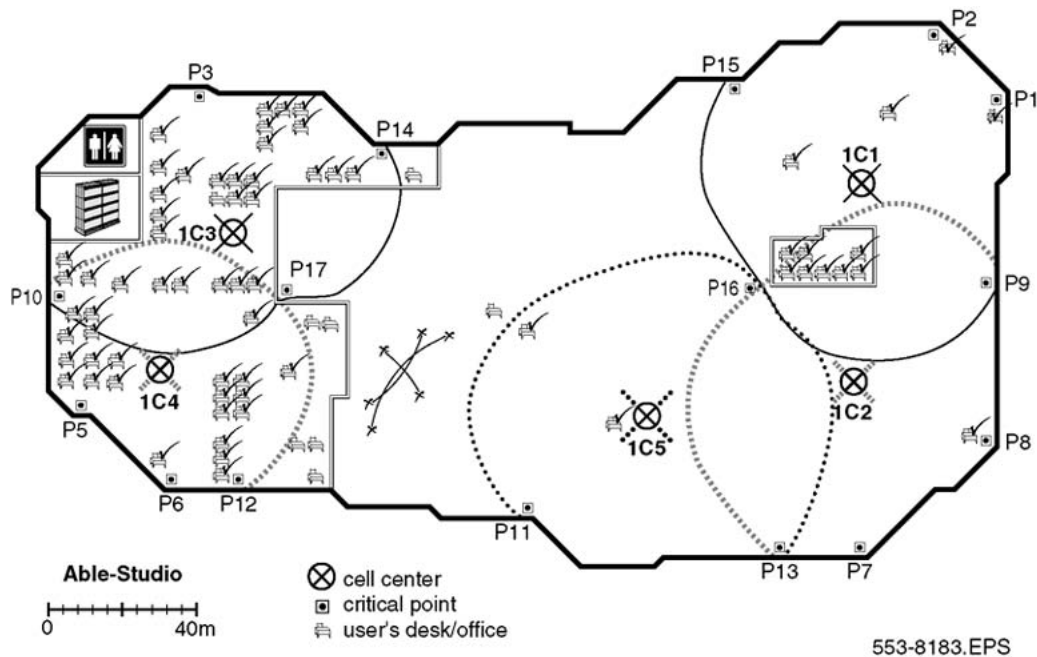

Figure 29: Example of critical point cell boundaries
- contours in Figure 29: Example of critical point cell boundaries on page 57